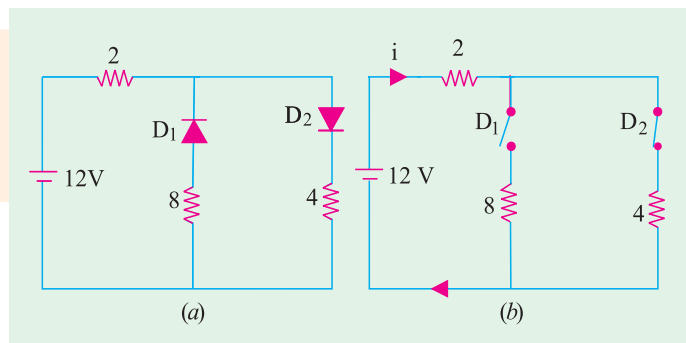

Fig. 52.20
**Example 52.12.** Find the current, if any flowing in the circuit of Fig. 52.20 (a) which uses two oppositely-connected ideal diodes in parallel.
**Solution.** The diode  $D_1$  is reverse-biased and acts as an open switch as shown in Fig. 52.20 (b). So, there is no current through  $D_1$  and the  $8\ \Omega$  resistor.